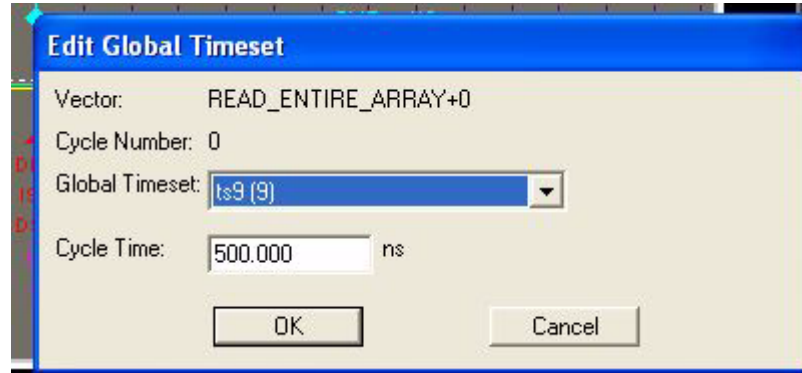

Figure 7-14. Edit Global Timeset Dialog Box
- Double-clicking on a blue diamond cycle marker displays an Edit Global Timeset dialog box that allows you to change the global timeset for that cycle (similar to Figure 7-14).